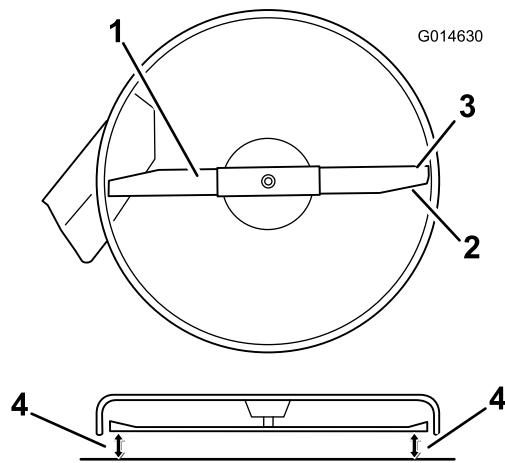
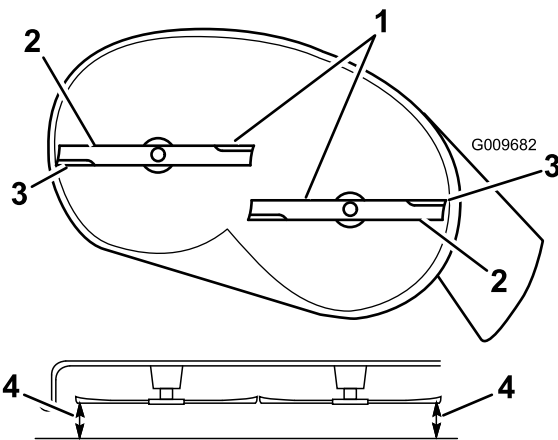

Figure 53
Figure 54
- Carefully rotate the blade(s) so that they are all side to side (Figure 53 and Figure 54).
5. Measure between the outside cutting edges and the flat surface (Figure 53 and Figure 54).